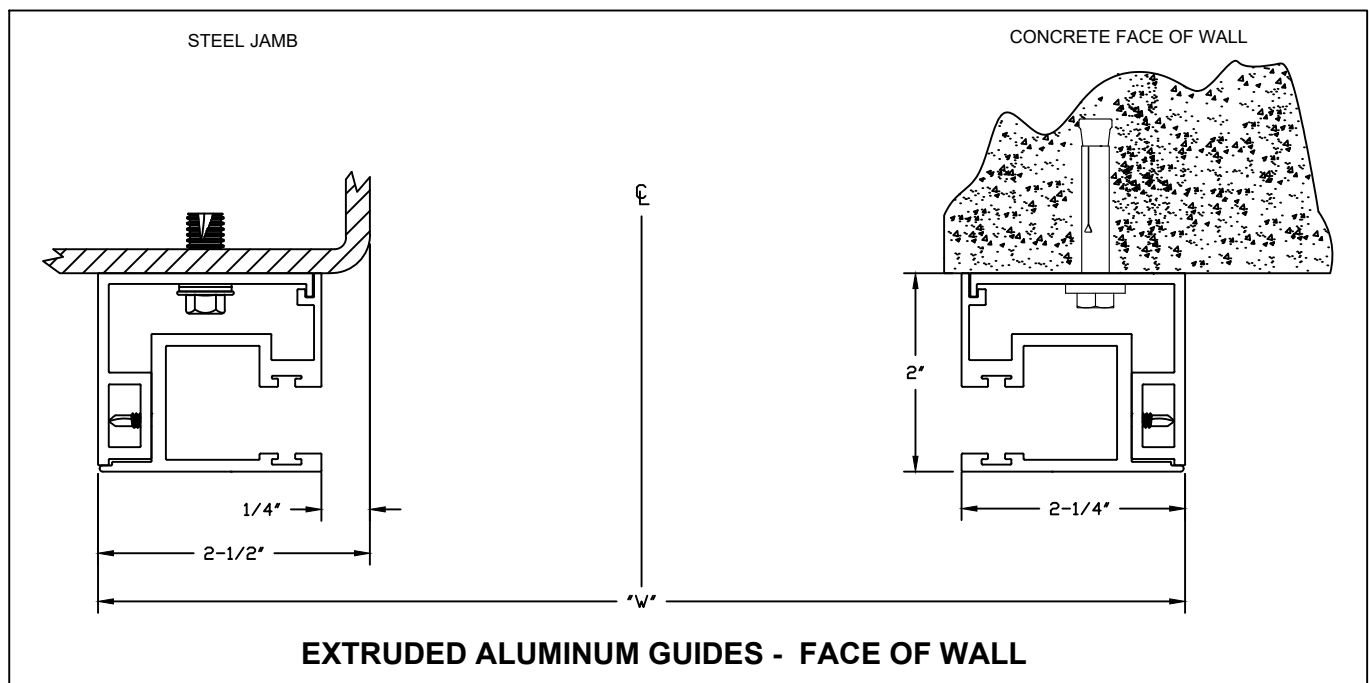

FIGURE 5
- a. Find and mark centerline of opening and mark as shown in Figure 5.
- d. Sill marks should precisely equal "W" dimension and reflect the location of the wall angle's perpendicular leg as shown in Figure 5.